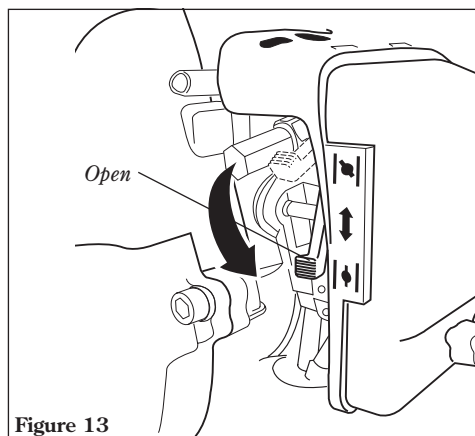

Figure 13
5. When the engine starts, slowly move the choke lever to the "OPEN" position. See Figure 13. (If the engine stops after the initial start, close the choke and restart.)